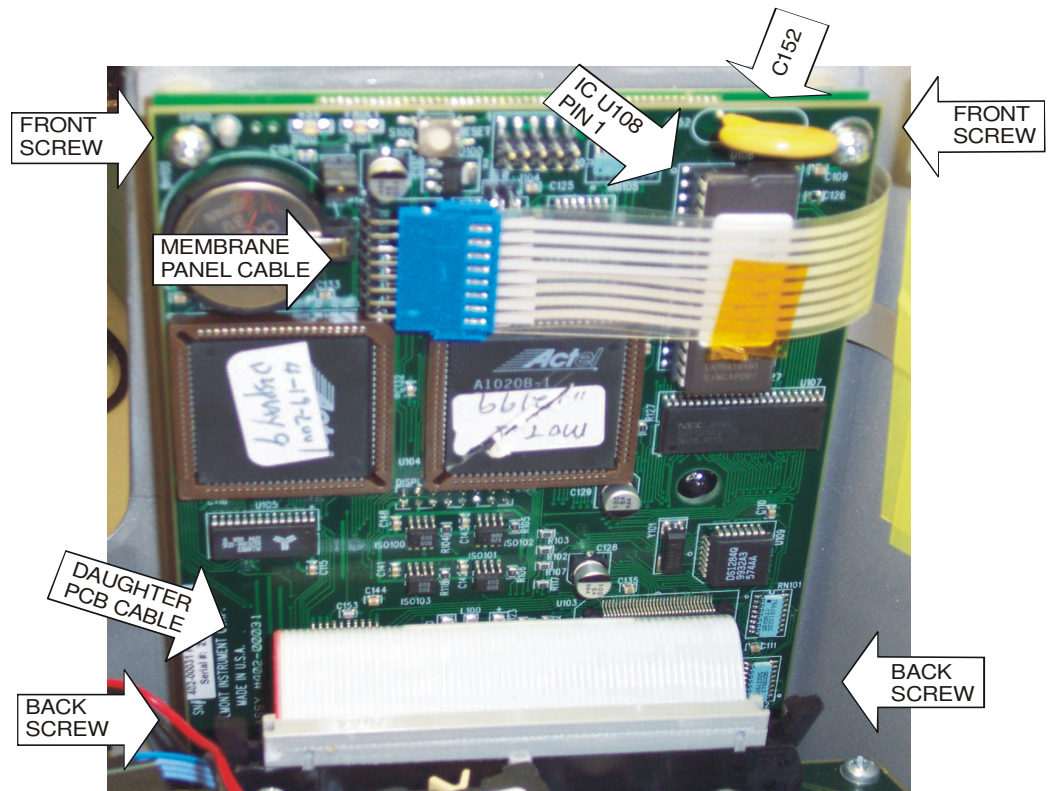

Figure 3: CPU Board
2. Position C152 on CPU PCB and solder in place. Figure 3.
3. Insert 2X pan head Phillips screws through the back holes in CPU PCB, through 2X standoffs & Display. Figure 3.
5. Insert 2X pan head Phillips screws through the front holes in CPU PCB, through 2X standoffs & Display. Figure 3.